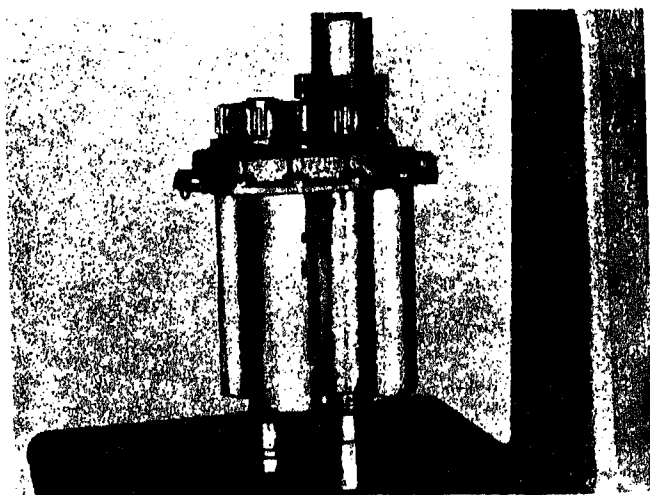

Fig. 10-4-10. Pressing gears on rotors
9. Position timing gear (22) on drive rotor shaft and press into position.
10. Insert driven rotor shaft through the second hole in gear end plate (19) and press on timing gear (28) making sure rotors are positioned exactly 90° apart as timing gears mesh. Fig. 10-4-10.